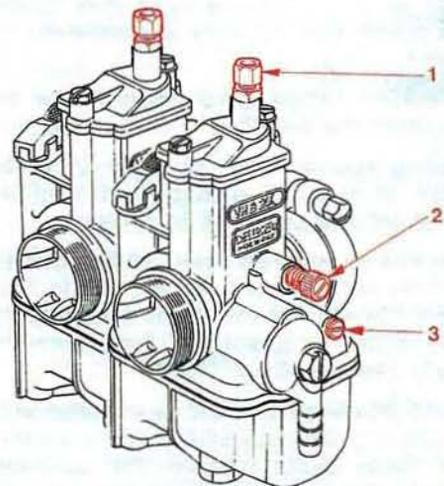
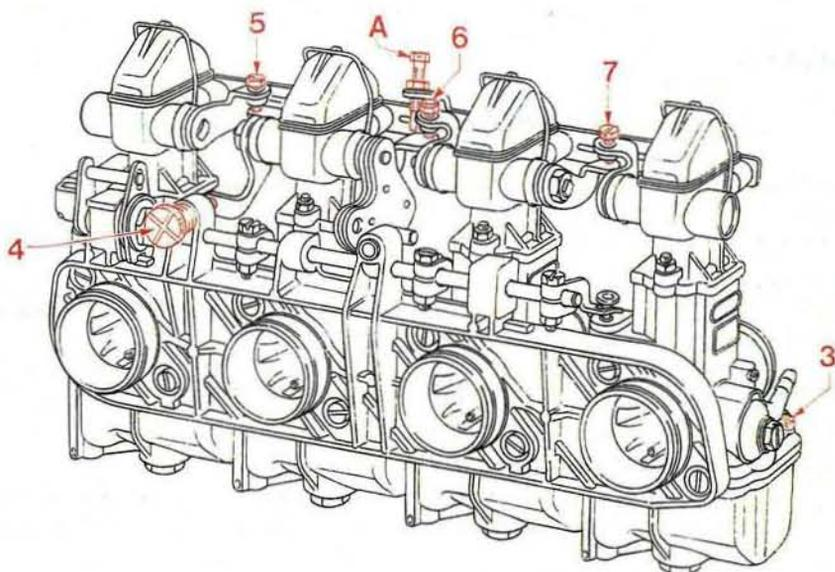

fig. 31
fig. 32
- with carburettors **separated** (figure 31) and therefore with a throttle cable each.
- with carburettors **mounted together** in a rigid group by means of a suitable flange (figure 32) and with a single control cable.
Make sure, both for independent (figure 31) and grouped carburettors (figure 32), that each throttle cable has about 1mm free play at idle.
- start the engine and when it has reached normal running temperature, adjust the idle speed to about 1000 rpm using the throttle adjusting screw (2) in figure 31 or screw (4) in figure 32.
- for independent carburettors (figure 31) align the mercury column levels using the throttle adjusting screws (2) on each carburettor.
- for carburettors mounted together in a group (figure 32) align the mercury column levels with the level of the carburettor connected directly to the throttle control, adjusting the balance-adjusting screws (5), (6), (7).
- then adjust the mixture screws (3) of each carburettor to obtain the fastest even running.
- recheck the alignment of the mercury columns and then reset the engine to the desired idle speed using the throttle adjusting screw (2) in figure 31 or screw (4) in figure 32.
- for independent carburettors (figure 31) check that the alignment of the mercury columns is unaffected by slightly opening the throttle. If it is, adjust the individual cable-adjuster screws (1) to correct this.